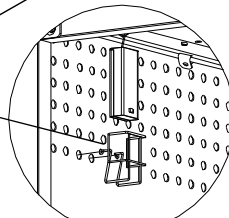

Fig.2
- Place the Battery Box Bracket over the holes of the Cart Left Panel, and then put the Battery Box into the Battery Box Bracket. (see Fig.2).